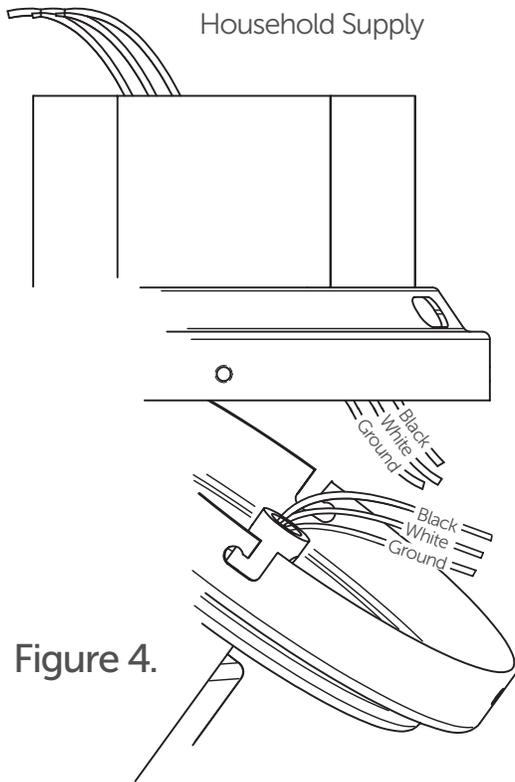

Figure 4.
- Connect the fan supply (black) wire to the black household supply wire as shown in Figure 4.
- Connect the neutral fan supply (white) to the white household supply as shown in Figure 4.
- Connect the Ground fan wire (Green) to the ground household supply as shown in figure 4.